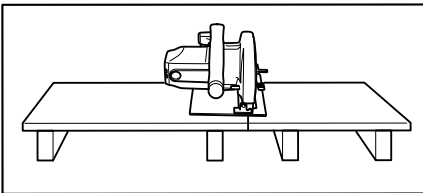

Fig. 1
8. **Support Large Panels (Fig. 1 & 2).** Large panels must be supported as shown in Fig. 1 to minimize the risk of blade pinching and kickback.
10. **Guard Against Kickback. (Fig. 1 & 3)** Kickback occurs when the saw stalls rapidly and is driven back towards the operator. Release switch immediately if blade binds or saw stalls. Keep blades sharp. Support large panels as shown in Fig. 1.